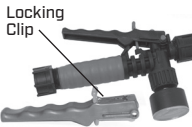

Figure 2
2) Remove the retaining pin (A) (Figure 2) place the notched end of the retaining pin on a hard surface and push down. Remove the retaining pin and slide the handle off the valve.